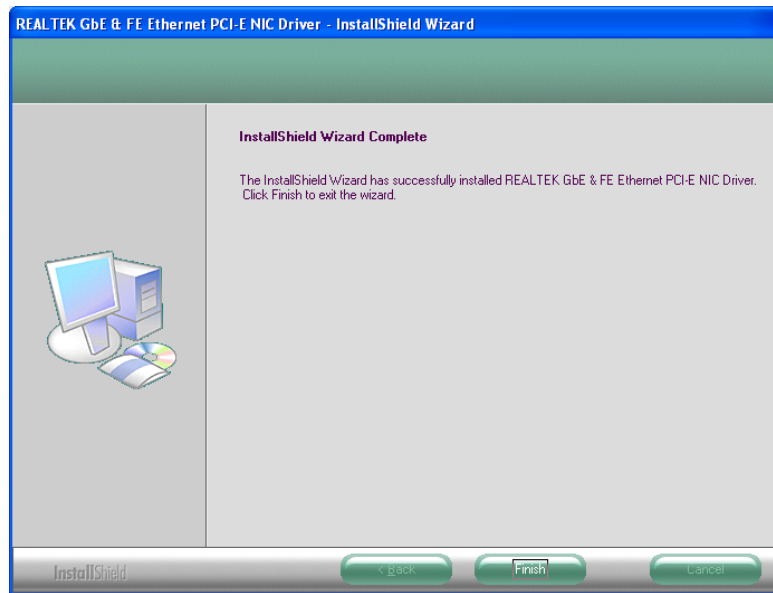

Figure 6-22: LAN Driver Installation Complete
Step 9: When the driver installation is complete, the screen in **Figure 6-22** appears.